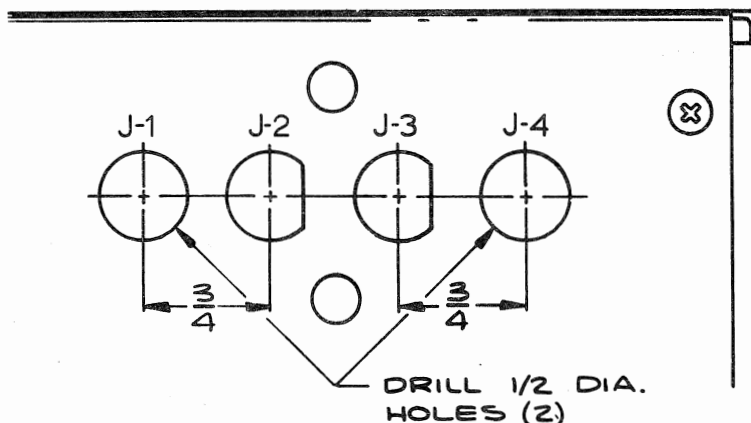

Fig. 3
- ( ) 6. Drill two 1/2 in. holes in the rear plate, on each side of the two existing "D" holes, as shown in Fig. 3.